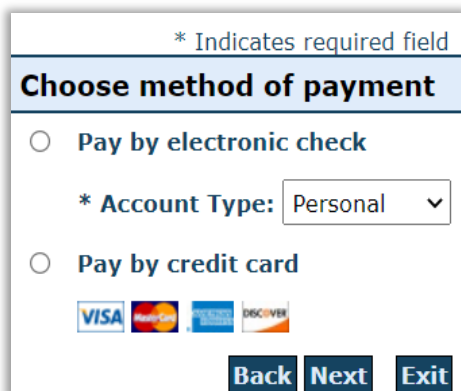

Figure 6-16 – Online Payment Methods
Step 3: Click on **Generate Payment Voucher**. See Figure 6-16 below.
Step 4: Select **Pay by electronic check** or **Pay by credit card**. When selecting **Pay by electronic check**, select Account type. To choose Personal or Business for the checking account you want the funds to be drawn from. See Figure 6-16.